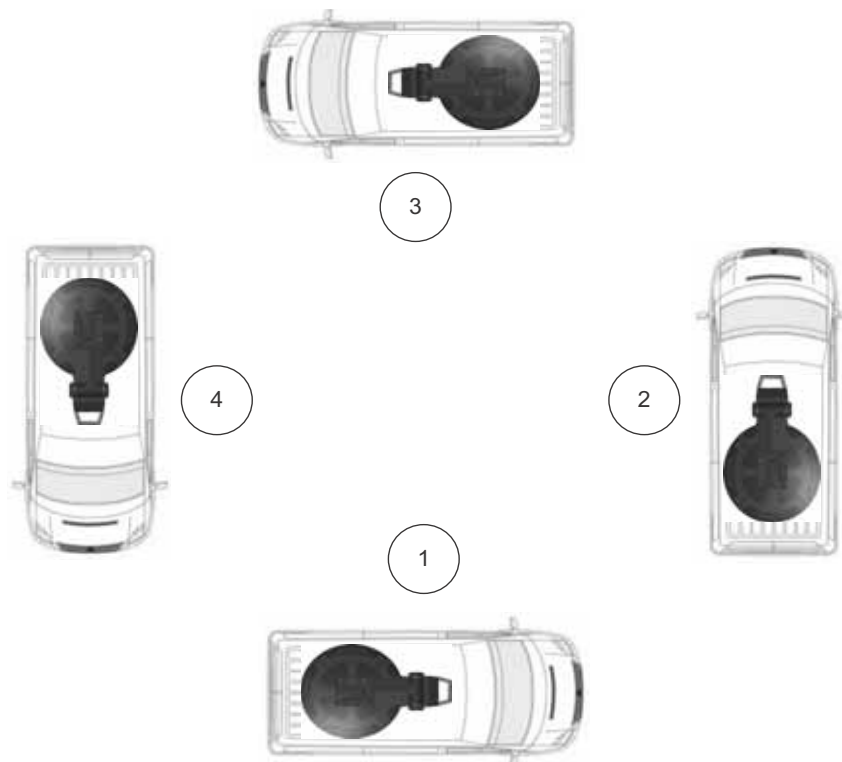

Figure 6-12: Compass calibration, vehicle positions
10. When the first part is completed, move the vehicle so that it is parked approximately on a 90 degrees angle relative to the previous position, see Figure 6-12.